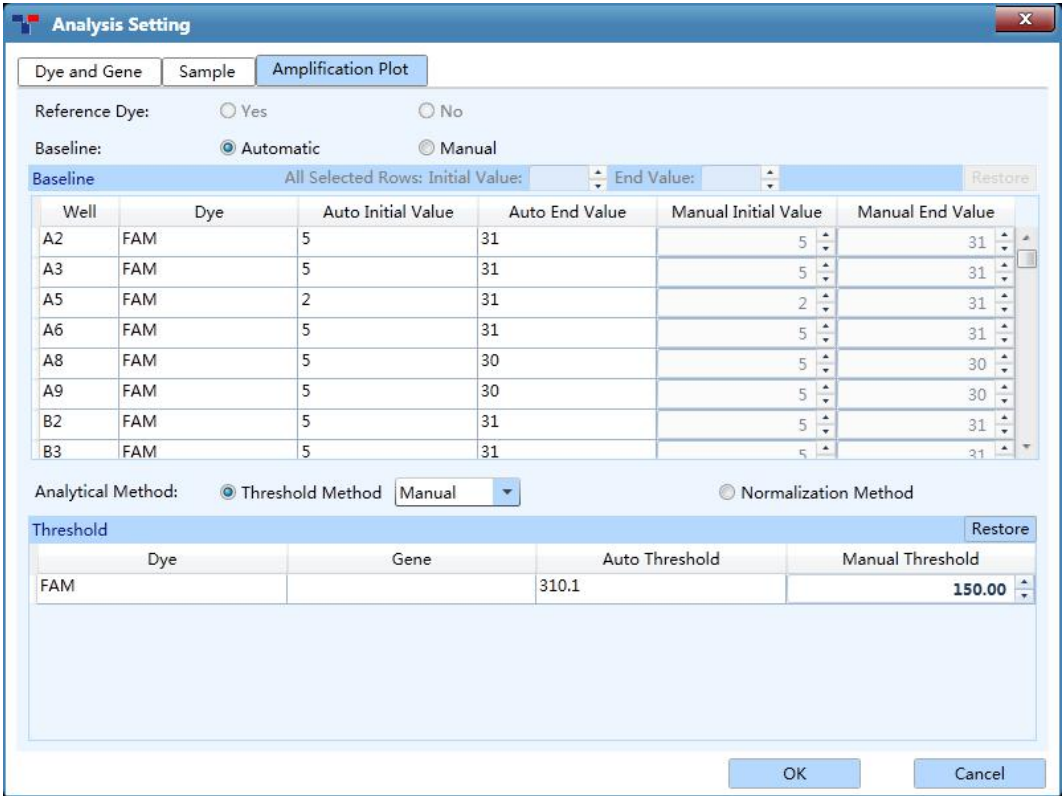

Figure D-10.3 Abs Quant Analysis Setting interface - Amplification Plot tab
- **Amplification Plot** tab: users can set **Reference Dye**, **Baseline** and **Analytical Method** in the **Amplification Plot** tab, as shown in figure D-10.3.
- **Analytical Method:** the application software provides users with two Ct value analytical methods: **Threshold Method** and **Normalization Method**, as shown in figure D-10.3.